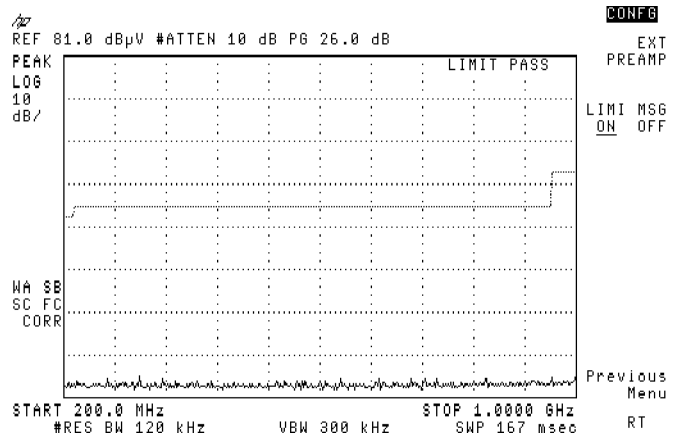

Figure 3-83. Displaying LIMIT PASS
20. Disconnect CAL OUT from the analyzer input. **LIMIT PASS** is displayed since the signal does not exceed the limit line. See Figure 3-83.